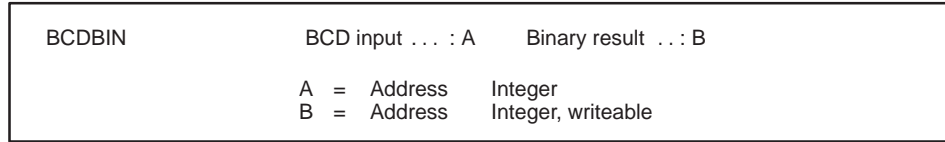

Figure 7-5 BCDBIN Format
**BCDBIN Description** The Convert BCD to Binary statement converts binary coded decimal (BCD) inputs to a binary representation of the equivalent integer. The BCDBIN format is shown in Figure 7-5.